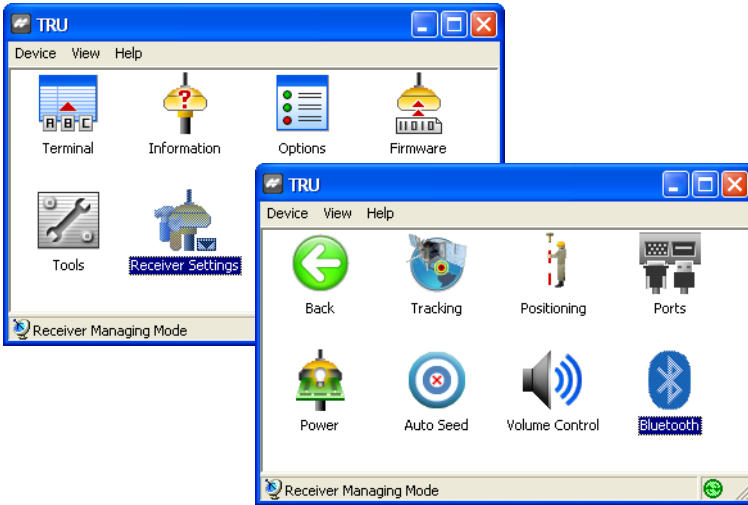

Figure 2-20. Select Communication Port and Click Connect
4. On the TRU *Main Screen*, click on the **Receiver Settings** icon **Connect** and then on the Bluetooth icon to connect to Bluetooth module (Figure 2-20).